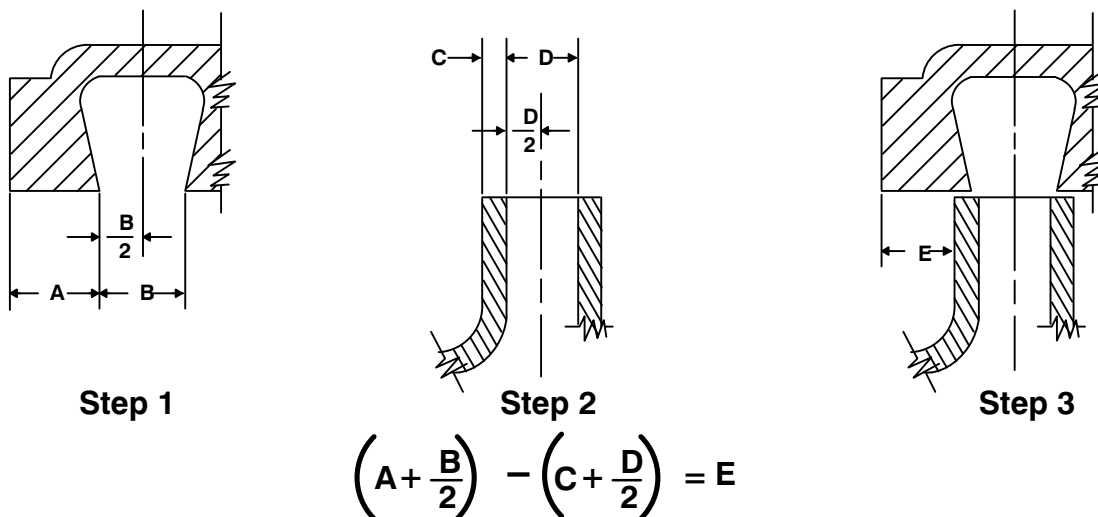

Figure 4. Centering Impeller Within Vane Plate Scroll
To verify the impeller positioning, measure the vane plate and impeller as shown in Figure 4. Use these measurements to calculate the required impeller location (dimension E). Add or remove impeller adjusting shims (15) until dimension E is obtained.